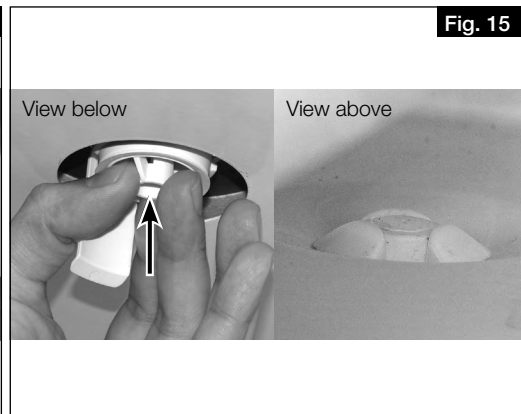

Fig. 15
2. Plug the mounting part in the condensate outlet from below, until the claw fasteners snap to the sheet edge of the base plate (Fig. 15).